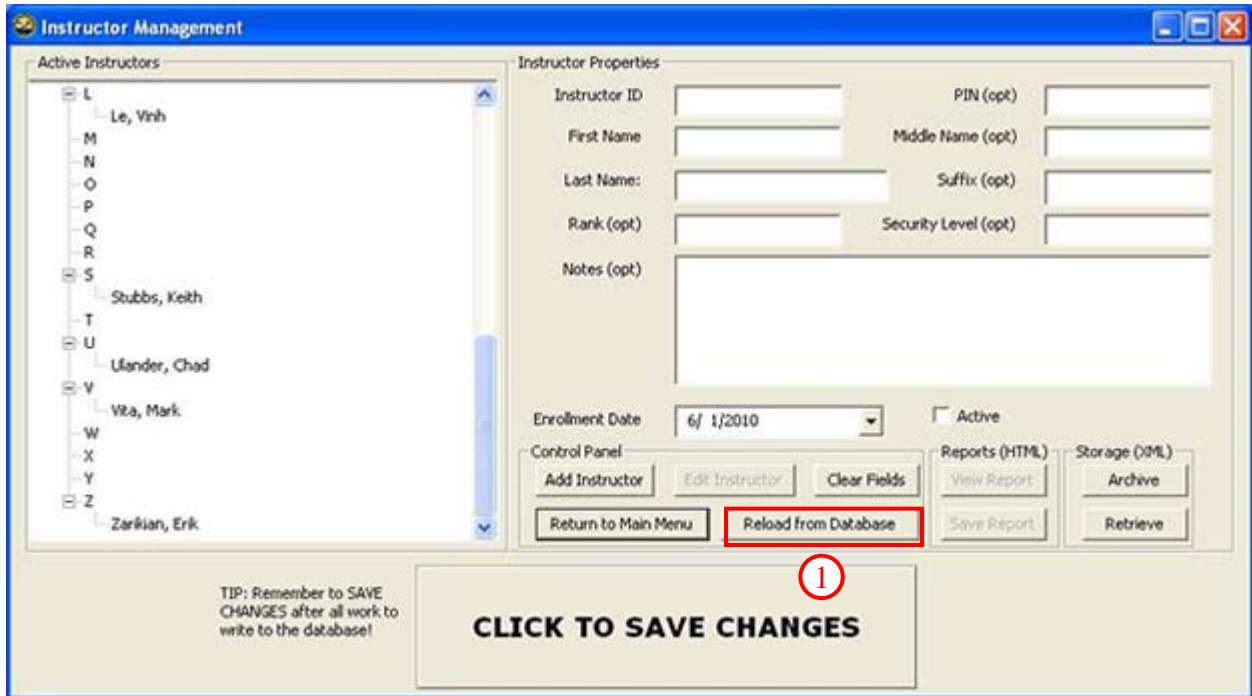

Figure 45. Instructor Management - Reload From Database
1. Click the [RELOAD FROM DATABASE] button to reload all data from the database (Figure 45).